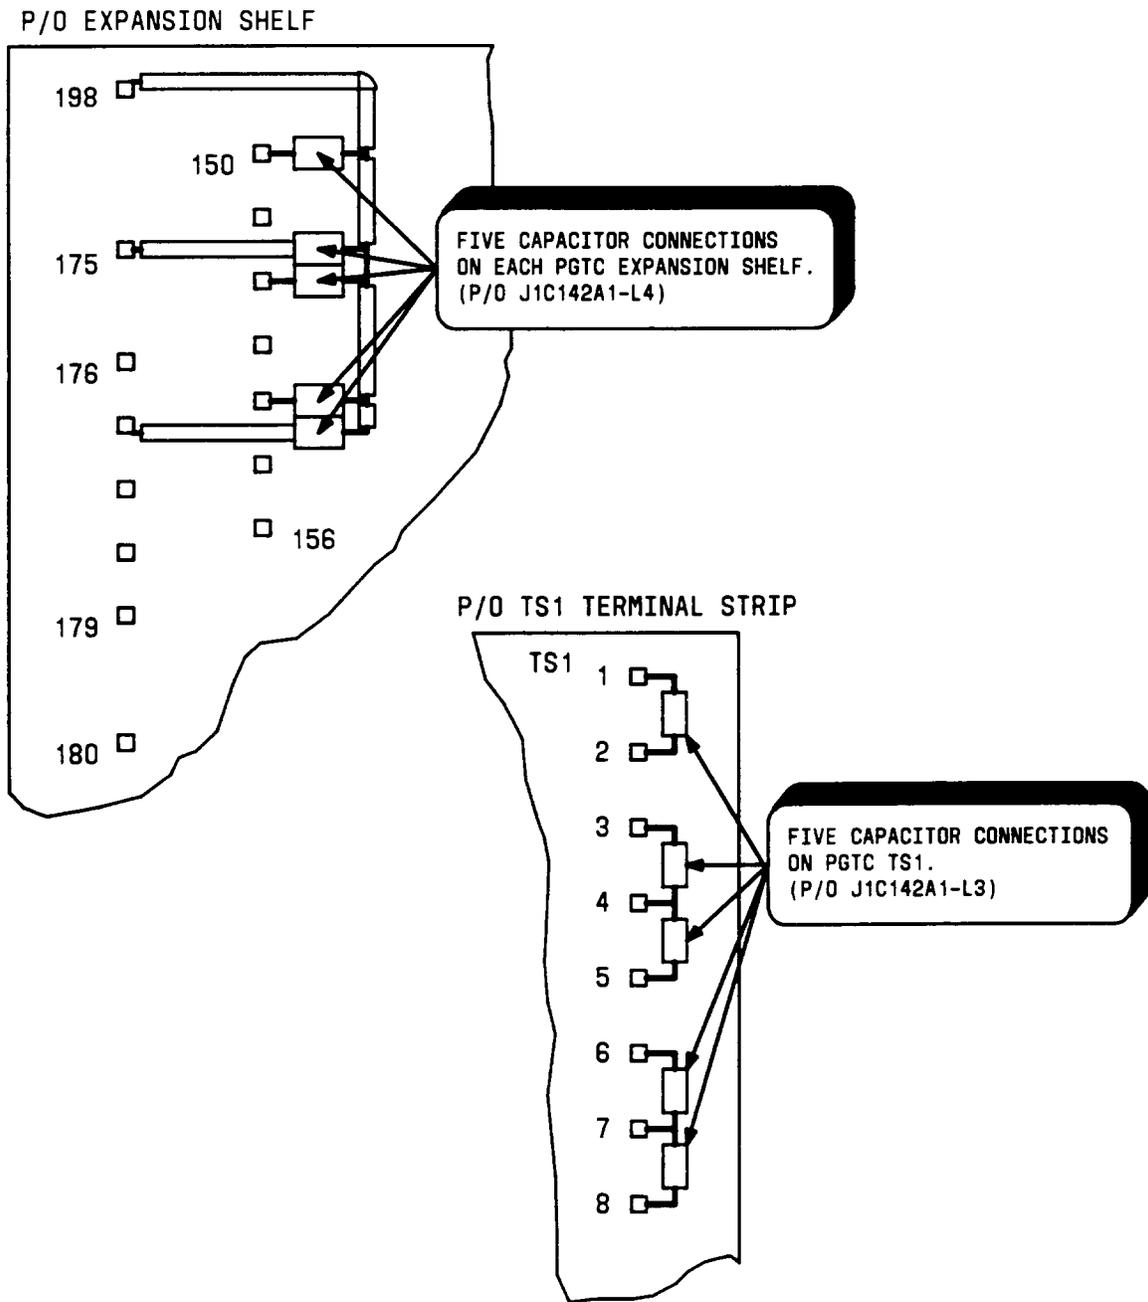

Figure 29 — Capacitor Connections - Mounted on Terminal Strip (TS1) or PGTC Expansion Shelf
* See Figure 29 for capacitor connections.